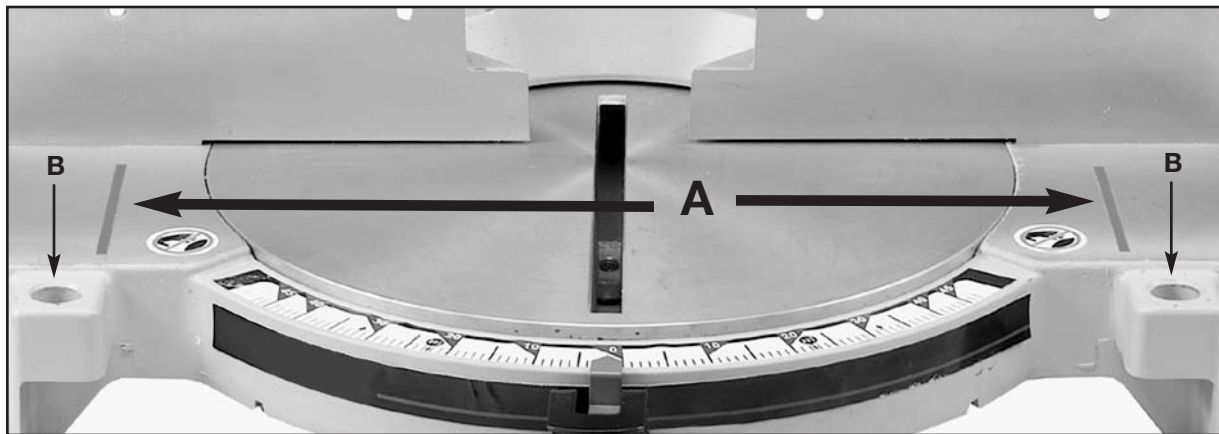

Fig. 8
**⚠ WARNING** The area inside the two red lines (A) Fig. 8 on the table is designated as a hazard zone. Never place your hands inside this area while the tool is being operated.
2. Two holes (B) Figs. 8 and 9 are provided in the base of the miter saw enabling you to use the clamp (A) on either the right or left hand side of the saw blade.